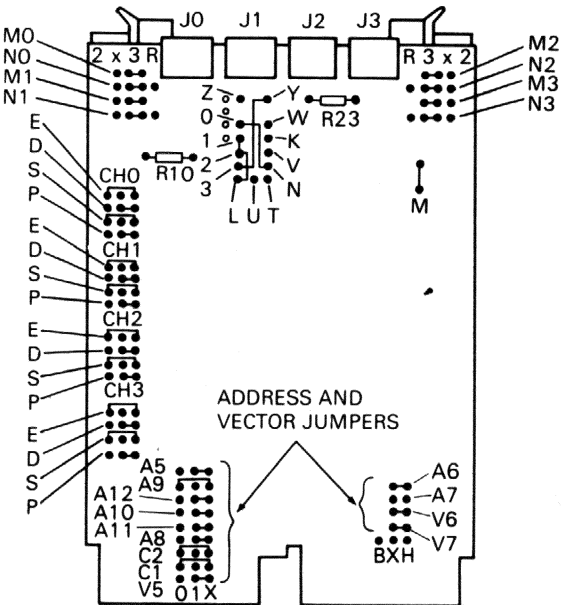

Figure 24 Jumper Locations
4. Check new PCB for jumper and switch position (see Figure 24)